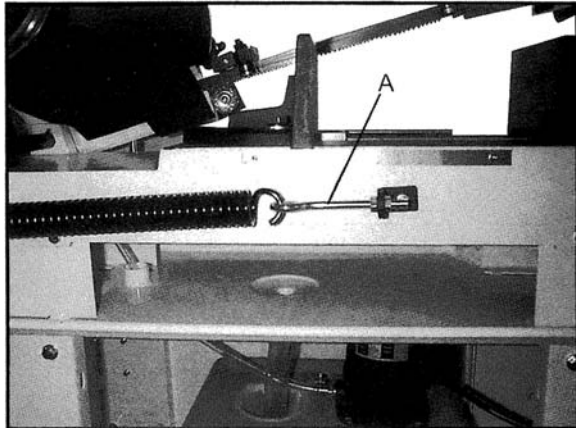

Figure 21
5. Adjust tension to approximately 13 to 15 lbs. by turning bolt (A, Figure 21).